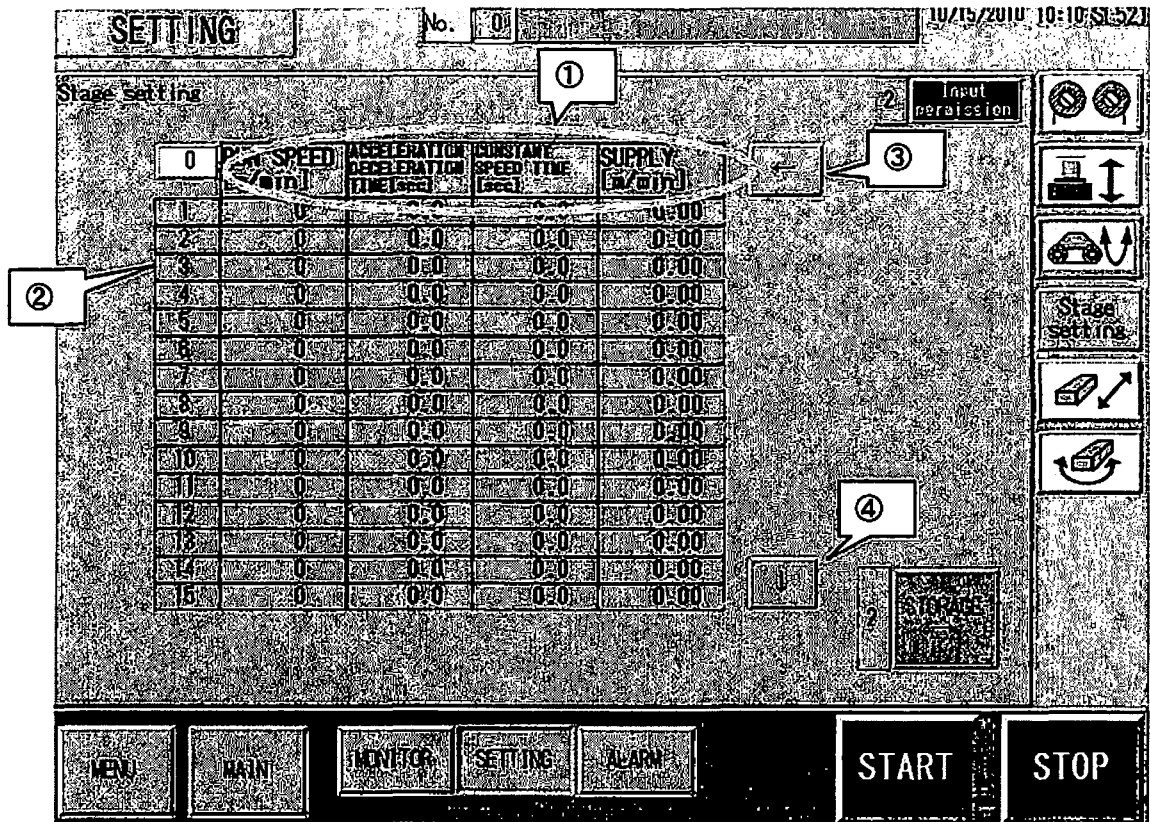

Fig. 14-4-3-5-2. Setting – Stage Setting 2-1
(Fig 14-4-3-5-3)
- ① Stage setting data . . . show process data for each stage
- ② Stage setting lamp . . . lamp for stages that are set in Fig 14-4-3-5-1
- ③ Paging . . . Move to the other setting page (elevating position, elevating speed, rocking angle, rocking speed) (Fig 14-4-3-5-1)
- ④ Paging . . . Move to the page indicates 16 – 25 of corresponding pages as Fig 14-4-3-5-1.